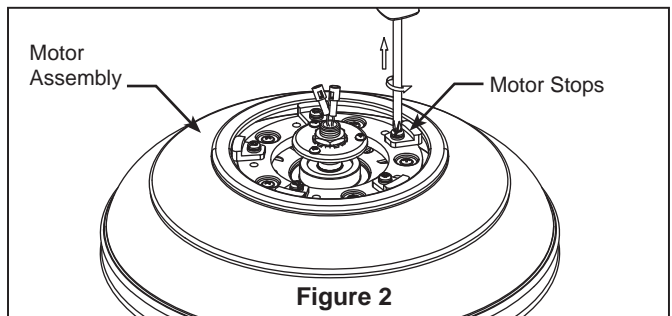

Figure 2
2. Remove one of the two screws in the adapter-switch housing assembly and retain the screw. Slightly loosen the other screw. (Figure 2)